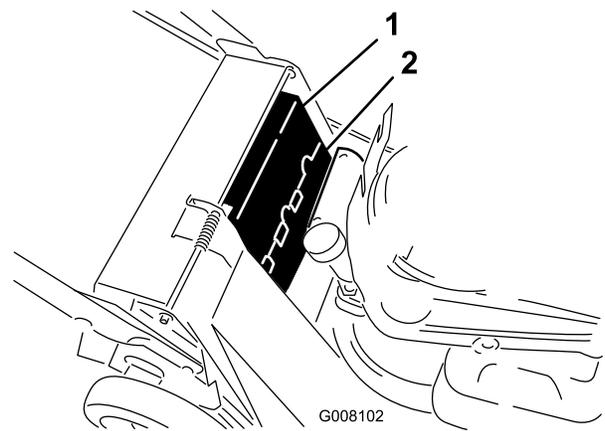

Figure 26
6. Remove the upper and lower belt covers (Figure 26).